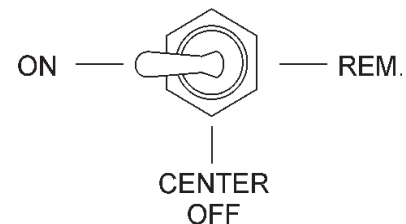

Figure 23. Pumping Control Switch (On)
6. Place the **Pumping Control Switch** to the **ON** position (Figure 23) for normal pumping operation. Place the switch in the **REM.** position for remote control operation of the LS-60TD pump.